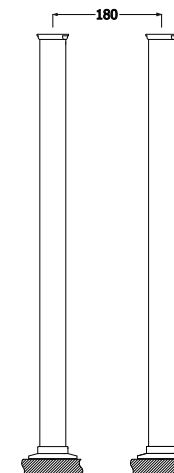

Fig. 2
- Install the legs into the floor/plate* using screws and sleeves* as shown in Fig. 2;